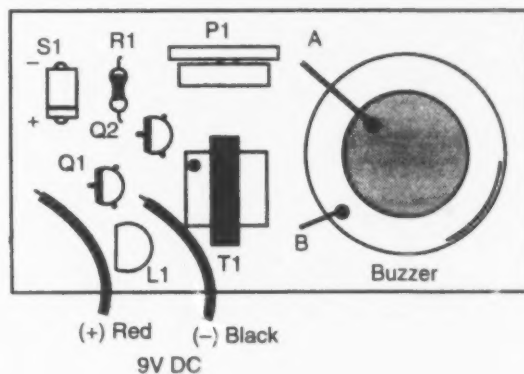

Figure 1 - Parts Layout
4. Install transistors (2) 2N3906 PNP transistors and 2N5060 SCR observing flat side location for correct mounting.
6. Now you may select which LEDs you wish to flash or just stay on by installing the optional jumpers (figure 1). Use left over pieces of bare wire leads cut from the resistors and capacitors that you previously installed to make the jumpers. All table information assumes keyboard has been activated. You do not need to install jumpers if you don't want the LEDs listed in the table to operate.